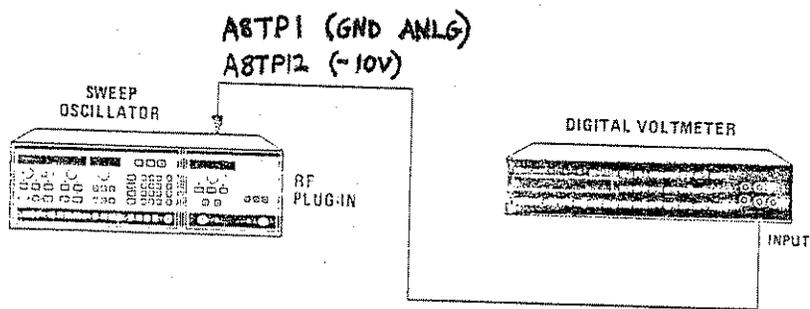

Figure 5-2 -10 Volt Reference Test Setup
1. Set up the equipment as shown in Figure 5-2. Connect the DVM to A8TP12 (-10V) with reference to A8TP1 (GND ANLG).